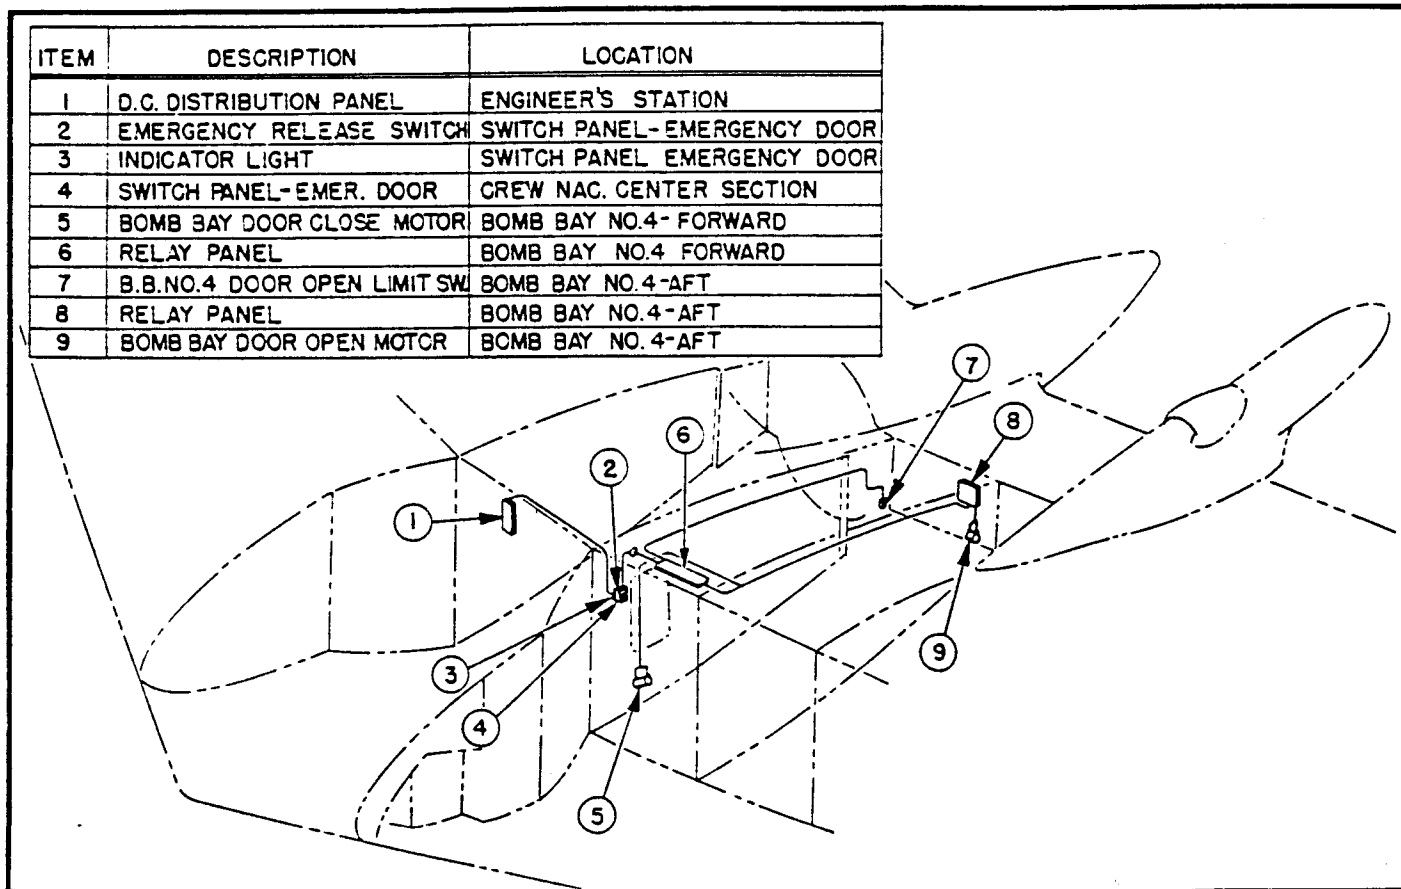

Figure 9. Bomb Bay No. 4 Door and Salvo Control
g. BOMB BAY #4 EMERGENCY SALVO. (See figure 9.)